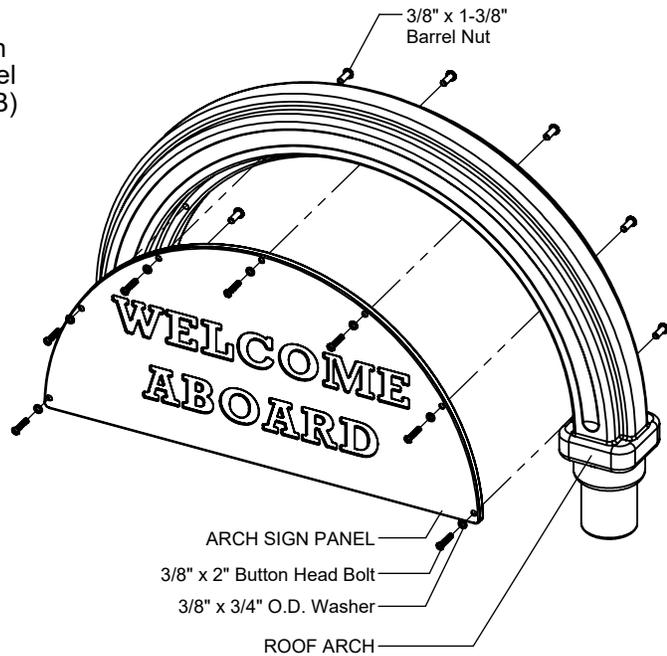

FIGURE 2
Using Arch Sign Panel match drill (7) $\text{\O}1/2"$ holes in Roof Arch for Strap Toggles. Attach Arch Sign Panel to Roof Arch as shown in Figure 2. (See Note A & B)